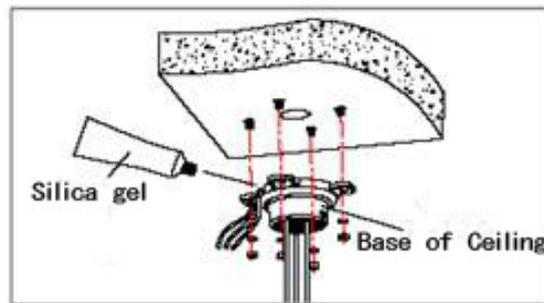

Fig 20
b. As shown in fig 20, at first unscrew the M4 screw at the side of the base of ceiling. Then make the three groups of cables Power, video/control and alarming insert into the side recessing seal groove of the ceiling connector bottom and through the core hole of the base of ceiling mount.